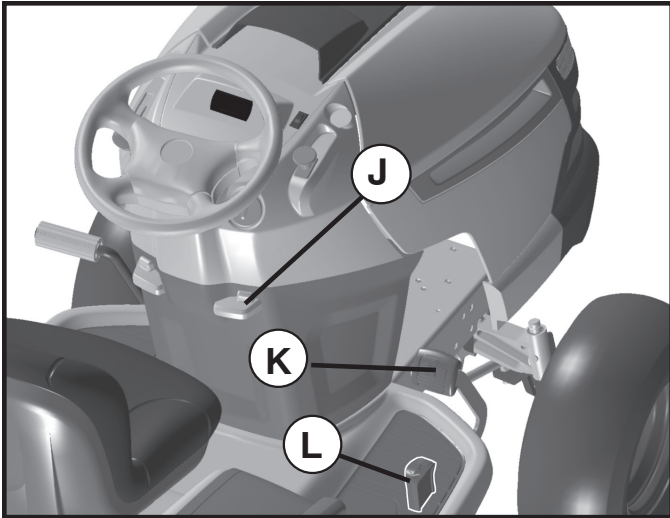

FIG. 7
### TO MOVE FORWARD AND BACKWARD (See Fig. 7)
- Slowly depress forward (K) or reverse (L) drive pedal to begin movement. Ground speed increases the further down the pedal is depressed.
### TO USE CRUISE CONTROL (J) (See Fig. 7)